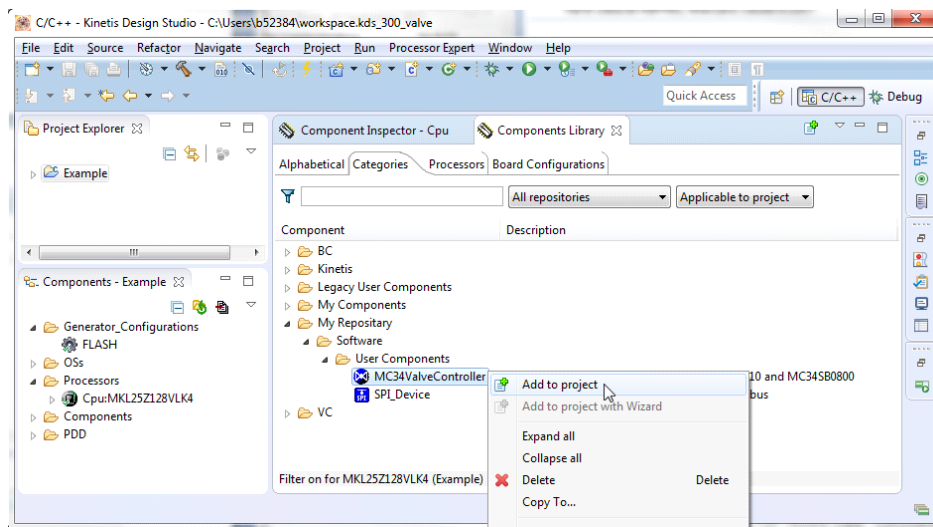

Figure 15. Add the MC34ValveController Component to the Project
1. Find the MC34ValveController component in the **Components Library** and add it into the project (see Figure 15). It is located in the workspace directory selected when importing the component (My Repository in the example).